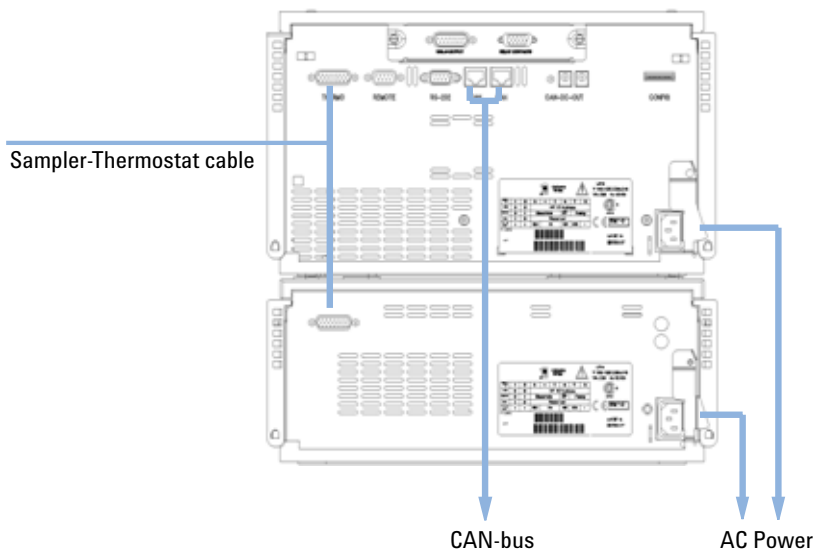

Figure 15 Connection at the rear of thermostatted Autosampler
- 13** Connect the cable between the sampler and the thermostat, see Figure 15 on page 48.